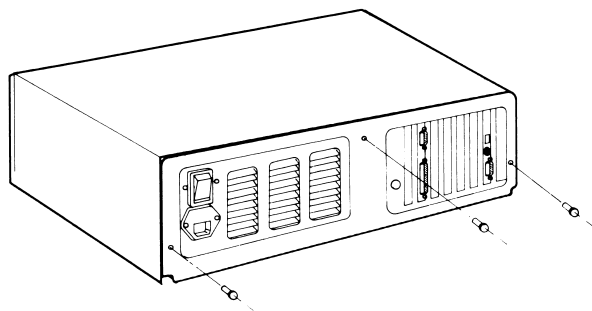

Figure 7-5. Removing the System Unit Cover.
**NOTE:** If you have an early model COMPAQ DESKPRO Personal Computer, there are two screws on the rear of the system unit. If you have a late model COMPAQ DESKPRO or if you have a COMPAQ DESKPRO 286 Personal Computer, there are three screws on the rear of the system unit (Figure 7-5).
8. Remove the screws that are on the back of the system unit (Figure 7-5).
11. Lift the cover straight up and off of the system unit (Figure 7-5).